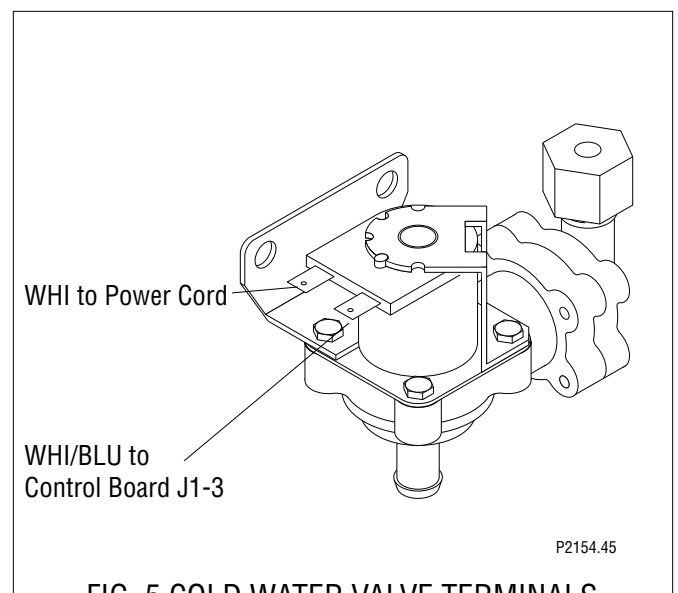

FIG. 5 COLD WATER VALVE TERMINALS
10. Refer to Fig. 5 when reconnecting the wires.
8. Refer to Fig. 5 when reconnecting the white/blue wire to the cold water valve.